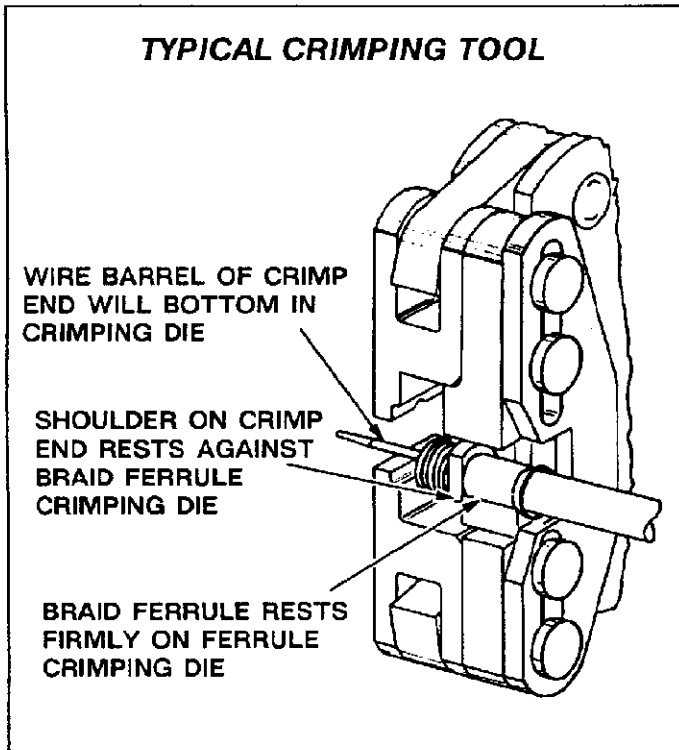

Fig. 7
The crimping tools have multiple sets of dies. See Figures 7 and 8 to crimp the braid ferrule and wire barrel of crimp end. Ferrule and wire barrel are crimped at the same time.
3. Make certain that wire barrel and braid ferrule of crimp end are resting firmly on crimping dies. See Figures 7 and 8.